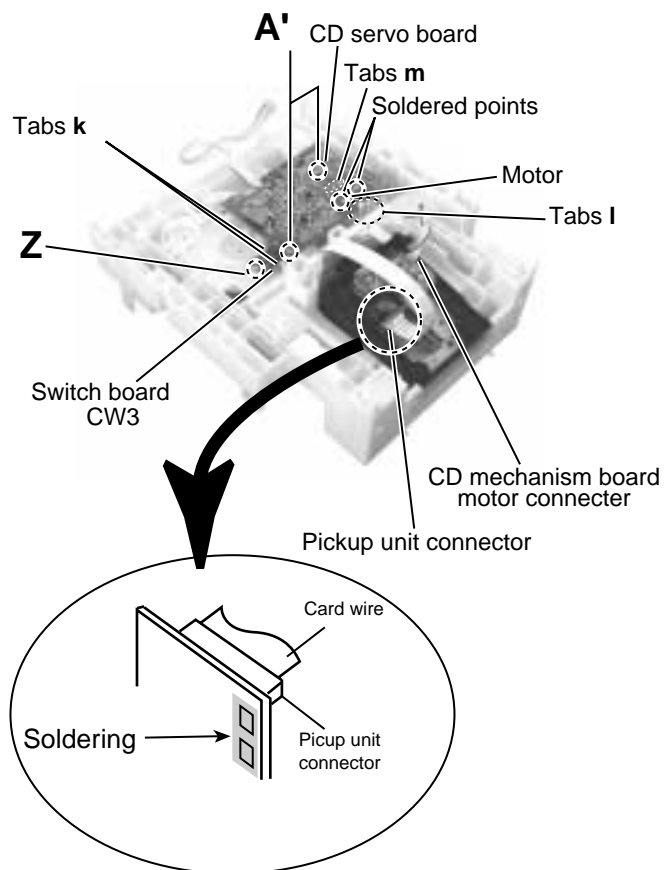

Fig.34
**Attention :** Solder is put up before the card wire is removed from the pick-up unit connector on the CD mechanism assembly. (Refer to Fig. 34)